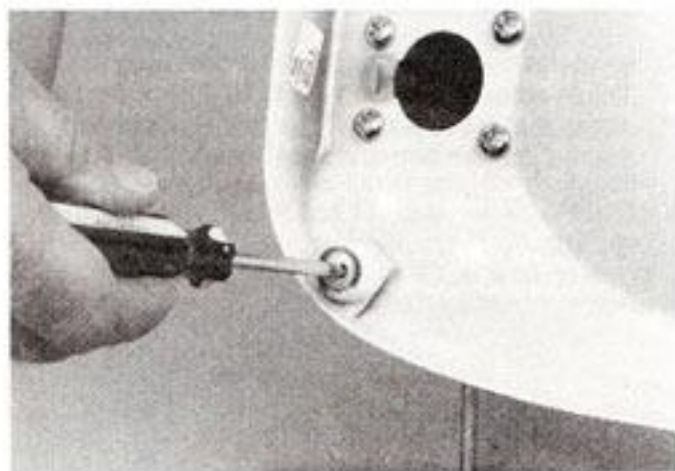

Fig. 96
- K. If the base feet are worn, replace them. To replace the feet, unscrew the #8-32 x $\frac{1}{2}$ " round head screws and remove the old feet (Fig. 96). Place the screws in the new feet and screw the feet to the base. Do not tighten so much as to push screw through the rubber.